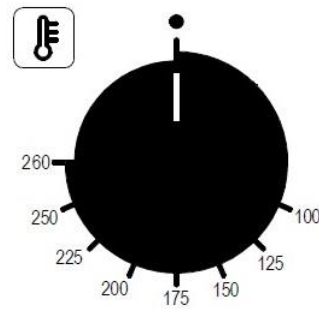

Fig.5
**Cooking temperature programming** - Turn the thermostat control knob (Fig.5) to the selected cooking temperature.